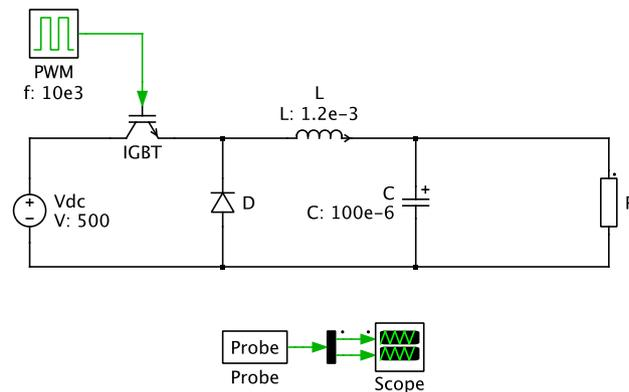

Figure 2.2: Schematic of a buck converter for PLECS WBS.
2. Set up the circuit as shown in Fig. 2.2 with the parameter values in Tab. 2.1. The resistor and duty cycle take a variable parameter value "VarR" and "D", respectively. In the initialization script the variables are set to $5\ \Omega$ and 0.5, respectively. Later in the online simulation the user should be able to change these values in a corresponding parameter field. Note that you should leave enough space between the capacitor and resistor so that a parameter field fits in between them on the web site.